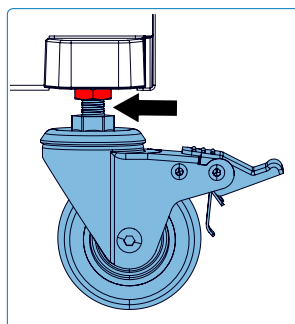
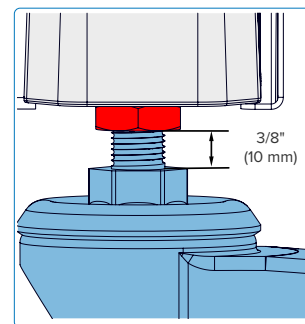

Fig. 23
Fig. 24
5. Once the desired height is reached, tighten the retaining nut against the appliance base to secure the caster in its new position. Do not exceed 3/8" (10 mm) when adjusting (**Fig.23 & Fig.24**). Repeat this procedure on the remaining casters until the grill is level and fully supported on each corner.